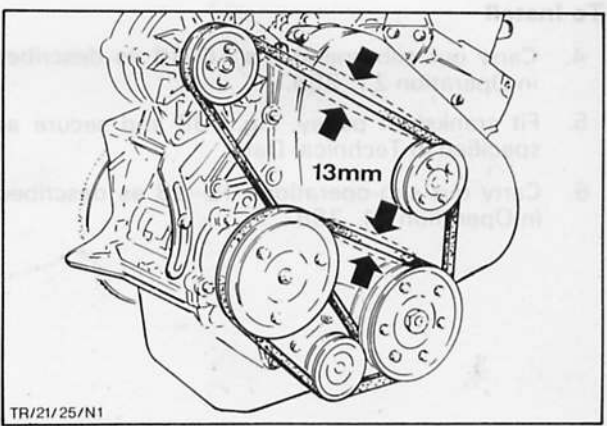

Fig. 136. Adjust alternator and vacuum V-belt tension
20. Position alternator and vacuum pump V-belts and adjust tension in such a manner that free play at a point midway between pulleys is 13 mm (0,5 in), Fig. 136.